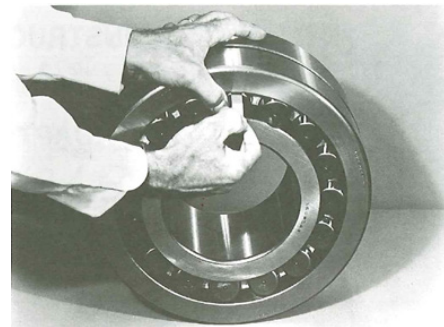

Figure 1 - Internal Clearance
2. Measure the internal clearance of the bearing before mounting. Place the bearing in an upright position as shown in Figure 1. Seat the inner ring and roller elements by pressing down firmly on the inner ring bore while rotating the inner ring a few times. Position the roller assemblies so that a roller is at the topmost position on either side. For bore sizes above 6-1/2", press these top rollers inward ensuring contact with center guide flange. Using a feeler gauge measure the clearance for each side by inserting as far as possible and sliding over top of roller. Write down the measured clearance for use in Step 3e.